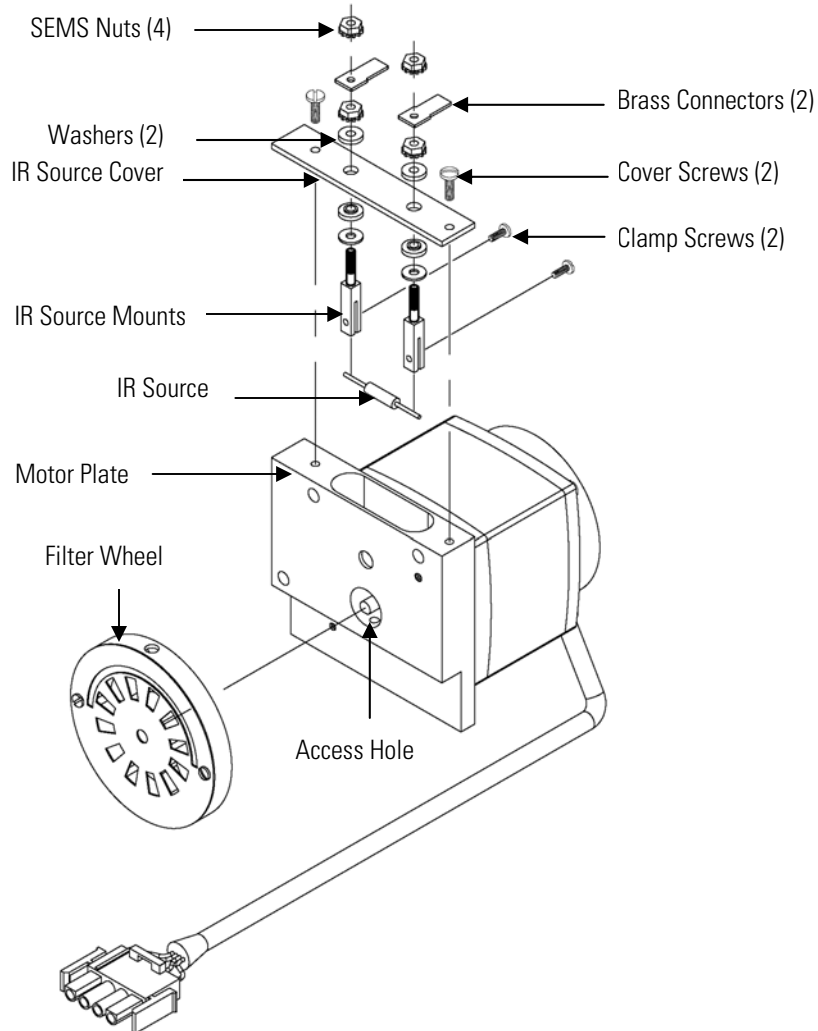

Figure 7-5. Replacing the IR Source
Use the following procedure to replace the IR source (Figure 7-5).
2. Remove the two cover screws holding the IR source cover to the motor plate and remove the IR source cover (Figure 7-5).